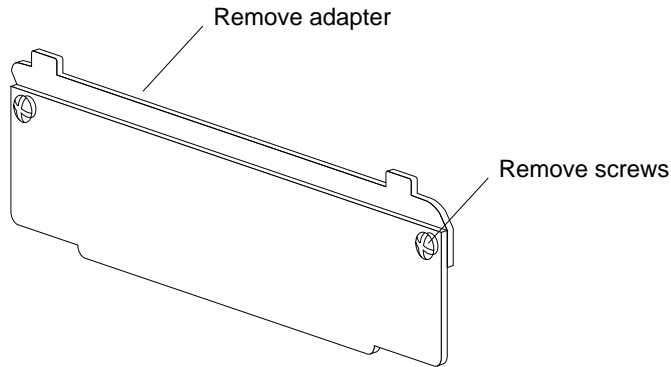

FIGURE 4-16 SBus Card Rear Panel with Adapter
2. **Remove the adapter bracket from the SBus card rear panel (FIGURE 4-16).**
3. **Remove the adapter bracket from the rear panel of the card** (FIGURE 4-16).